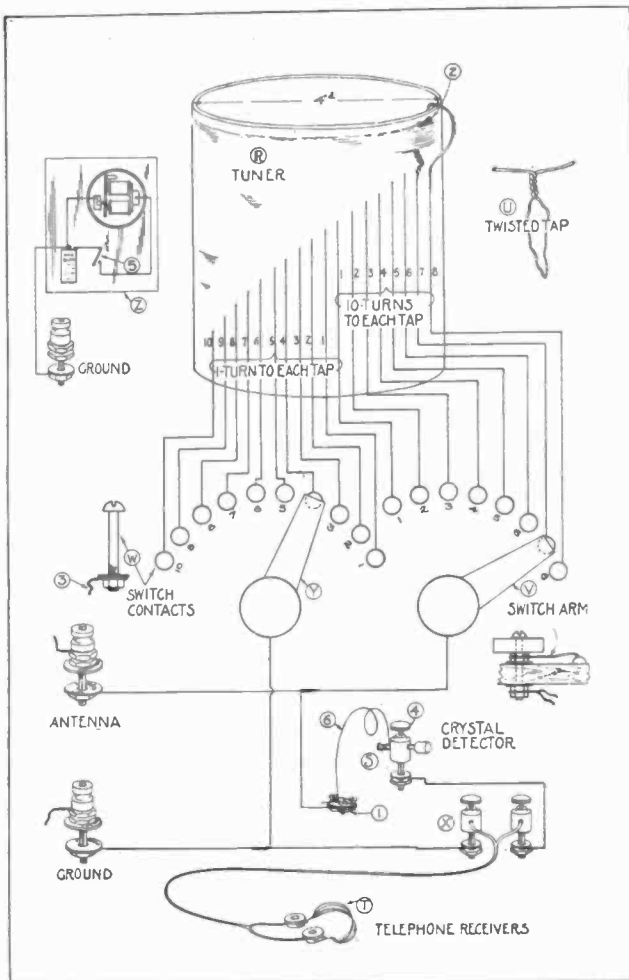

Fig. 3.—Constructional details of the simple radio receiving set designed by the U. S. Bureau of Standards for the use of hymen.
Tuner (R, Fig. 3)—This is a piece of cardboard or other non-metallic tubing with turns of copper wire wound around it. The cardboard tubing may be an oatmeal box. Its construction is described in detail below.
Crystal Detector (S, Fig. 3)—The construction of a crystal detector may be of very simple design and quite satisfactory. The crystal, as it is ordinarily purchased, may be unmounted or mounted in a little block of metal. For mechanical reasons the mounted type may be more satisfactory, but that is of no great consequence. It is very important, however, that a very good tested crystal be used. It is probable also that a galena crystal will be more satisfactory to the beginner.
The crystal detector may be made up of a tested crystal, three wood screws, short pieces of copper wire, a nail, set screw type of binding post, and a wood knob or cork. The tested crystal is held in position on the wood base by three brass wood-screws as shown at I Fig. 3. A bare copper wire may be wrapped tightly around the three brass screws for contact. The assembling of the rest of the crystal detector is quite clearly shown in Fig. 3.
Phone (T, Fig. 3)—It is desirable to use a pair of telephone receivers connected by a head band, usually called a double telephone headset. The telephone receivers may be any of the standard commercial makes having a resistance of between 2000 and 3000 ohms. The double telephone receivers will cost more than all the other parts of the station combined but it is desirable to get them, especially if one plans to improve his receiving set later. If one does not care to invest in a set of double telephone receivers a single telephone receiver with a head band may be used; it gives results somewhat less satisfactory.
Tuner—See R. Fig. 3. Having supplied one's self with a piece of cardboard tubing 4 inches in diameter and about $\frac{1}{2}$ pound of No. 24 (or No. 26) double cotton covered copper wire, one is ready to start the winding of the tuner. Punch two holes in the tube about $\frac{1}{2}$ inch from one end as shown at 2 on Fig. 3. Weave the wire through these holes in such a way that the end of the wire will be quite firmly anchored, leaving about 12 inches of the wire free for connections. Start with the remainder of the wire to wrap the several turns in a single layer about the tube, tightly and closely together. After ten complete turns have been wound on the tube hold those turns snugly while a tap is being taken off. This tap is made by making a 6 inch loop of the wire and twisting it together at such a place that it will be slightly staggered from the first tap. This method of taking off taps is shown quite clearly at U, Fig. 3. Proceed in this manner until six twisted taps have been taken off at every ten turns. After these first seventy turns have been wound on the tube then take off a 6 inch twisted tap for every succeeding single turn until ten additional turns have been wound on the tube. After winding the last turn of wire anchor the end by weaving it through two holes punched in the tube much as was done at the start, leaving about 12 inches of wire free for connecting. It is to be understood that each of the eighteen taps is slightly staggered from the one just above, so that the several taps will not be bunched along one line on the cardboard tube. See Fig. 3. It would be advisable, after winding the tuner as just described, to dip the tuner in hot paraffin. This will help to exclude moisture.
holes for the binding posts, switch arms and switch contacts may first be laid out and drilled. The "antenna" and "ground" binding posts may be ordinary $\frac{1}{8}$ inch brass bolts of sufficient length and supplied with three nuts and two washers. The first nut binds the bolt to the panel, the second nut holds one of the short pieces of stiff wire, while the third nut holds the antenna or ground wire as the case may be. The switch arm with knob shown at V, Fig. 3, may be purchased in the assembled form or it may be constructed from a thin slice cut from a broom handle and a bolt of sufficient length equipped with four nuts and two washers together with a narrow strip of thin brass somewhat as shown. The switch contacts (W, Fig. 3) may be of the regular type furnished for this purpose or they may be brass bolts equipped with one nut and one washer each or they may even be nails driven through the panel with an individual tap fastened under the head or soldered to the projection of the nail through the panel. The switch contacts should be just close enough that the switch arm will not drop between the contacts but also far enough apart that the switch arm can be set so as to touch only one contact at a time.
The telephone binding post should preferably be of the set screw type as shown as X, Fig. 3.
Having constructed the several parts just mentioned and mounted them on the wood base, one is ready to connect the several taps to the switch contacts and attach the other necessary wires. Scrape the cotton insulation from the loop ends of the sixteen twisted taps as well as from the ends of the two single wire taps coming from the first and last turns. Fasten the bare ends of these wires to the proper switch contacts as shown by the corresponding numbers in Fig. 3. One should be careful not to cut or break any of the looped taps. It would be preferable to fasten the connecting wires to the switch contacts by binding them between the washer and the nut as shown at 3, Fig. 3. A wire is run from the back of the binding
post marked "ground" (Fig. 3) to the back of the left-hand switch-arm bolt (Y), thence to underneath the left-hand binding post marked "phones." A wire is then run from underneath the right-hand binding post marked "phones" to underneath the binding post (4, Fig. 3), which forms a part of the crystal detector. A piece of No. 24 bare copper wire about $2\frac{1}{2}$ inches long, one end of which is twisted tightly around the nail (the nail passing through
binding post 4) the other end of which rests gently by its own weight on the crystal (1). The bare copper wire which was wrapped tightly around the three brass wood-screws holding the crystal in place is led to and fastened at the rear of the right-hand switch-arm bolt (V), thence to the upper left-hand binding post marked "antenna." As much as possible of this wiring is shown in Fig. 3.
The Test Buzzer—(Z, Fig. 3)—As mentioned previously, it is easy to find the more sensitive spots on the crystal by using a test buzzer. The test buzzer is used as a miniature local transmitting set. When connected to the receiving set as shown at Z, Fig. 3, the current produced by the buzzer will be converted into sound by the
telephone receivers and the crystal, the loudness of the sound depending on what part of the crystal is in contact with the fine wire. To find the most sensitive spot connect the test buzzer to the receiving set as directed, close the switch (5, Fig. 3) (and if necessary adjust the buzzer armature so that a clear note is emitted by the buzzer), set the right-hand switch arm on contact point No. 8, fasten the telephone receivers to the binding posts marked "phones." loose the set screw of the binding post slightly and change the position of the fine wire (6, Fig. 3) to several positions of contact with the crystal until the loudest sound is heard in the phones, then tighten the binding post set screw (4) slightly.